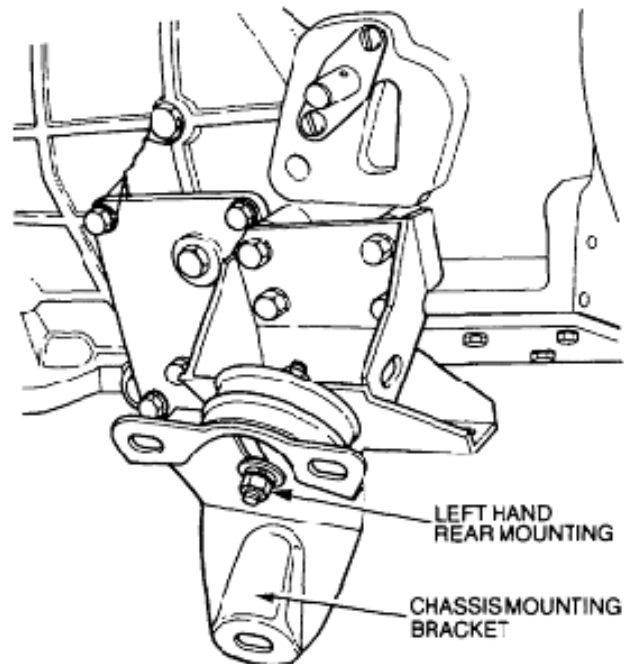

Figure 3 Engine Rear Mounting Removal
- a. Remove the nuts and washers securing both mountings to the transmission and chassis mountings (Figure 3).